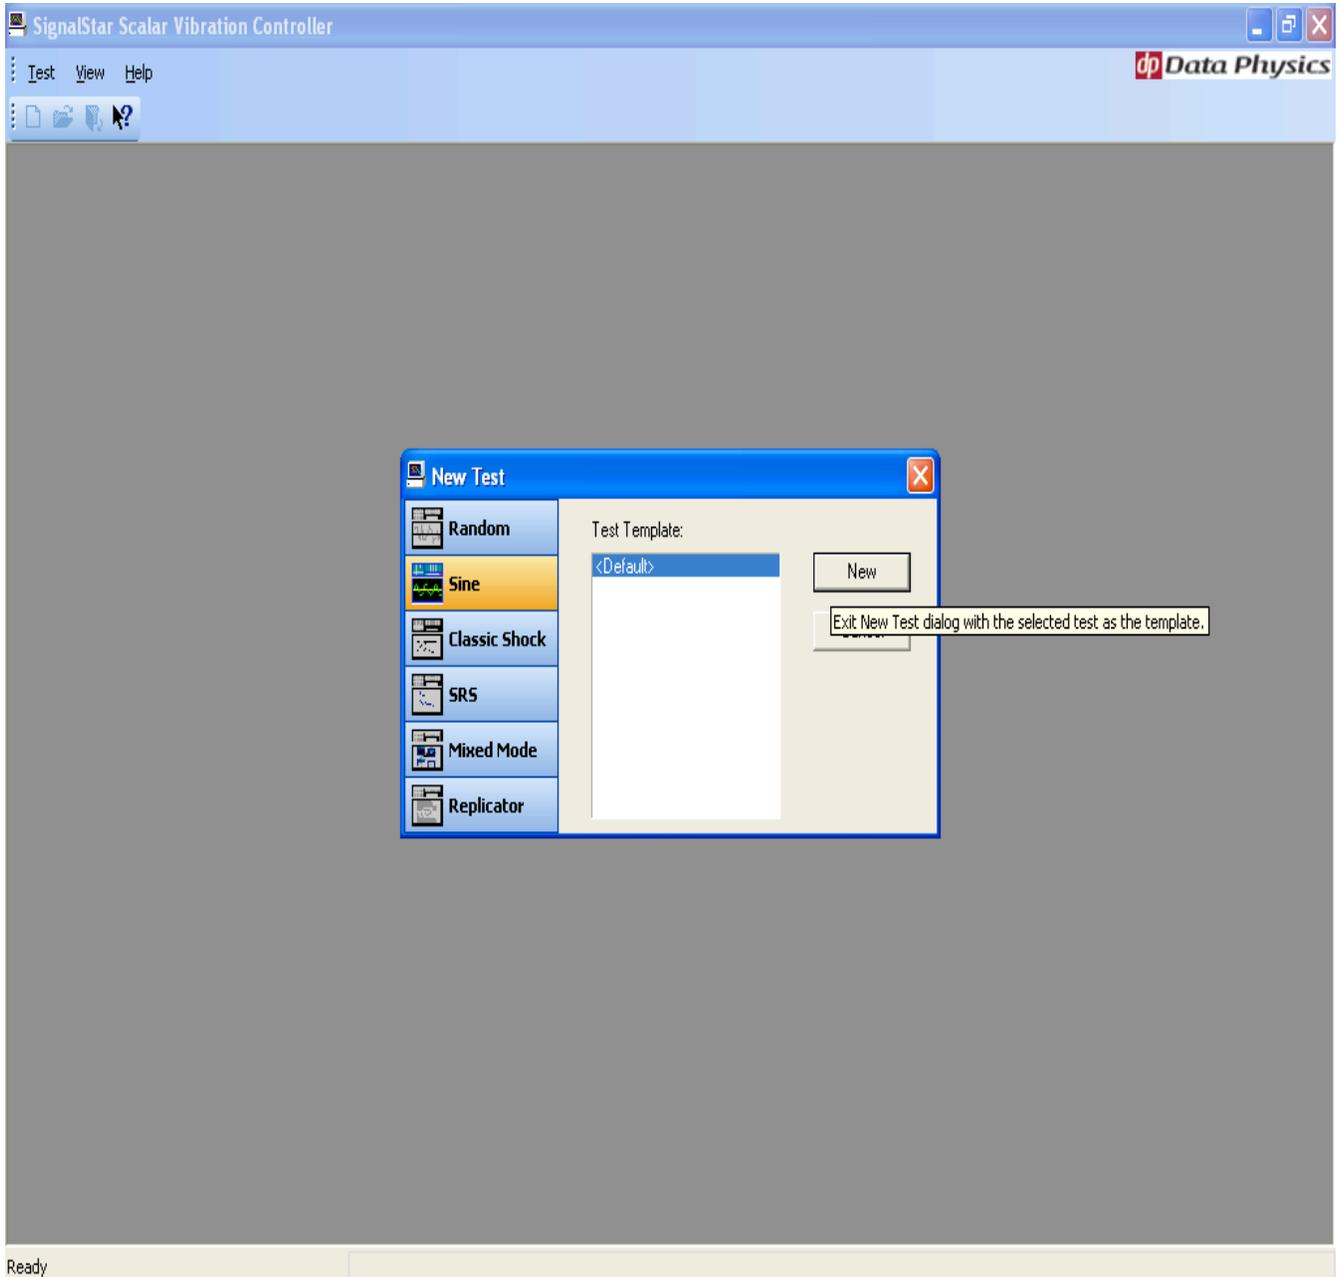

Figure 4-5: Screenshot for starting a new test
- 3) Select “SINE” and click “NEW”. See Figure 4-5.